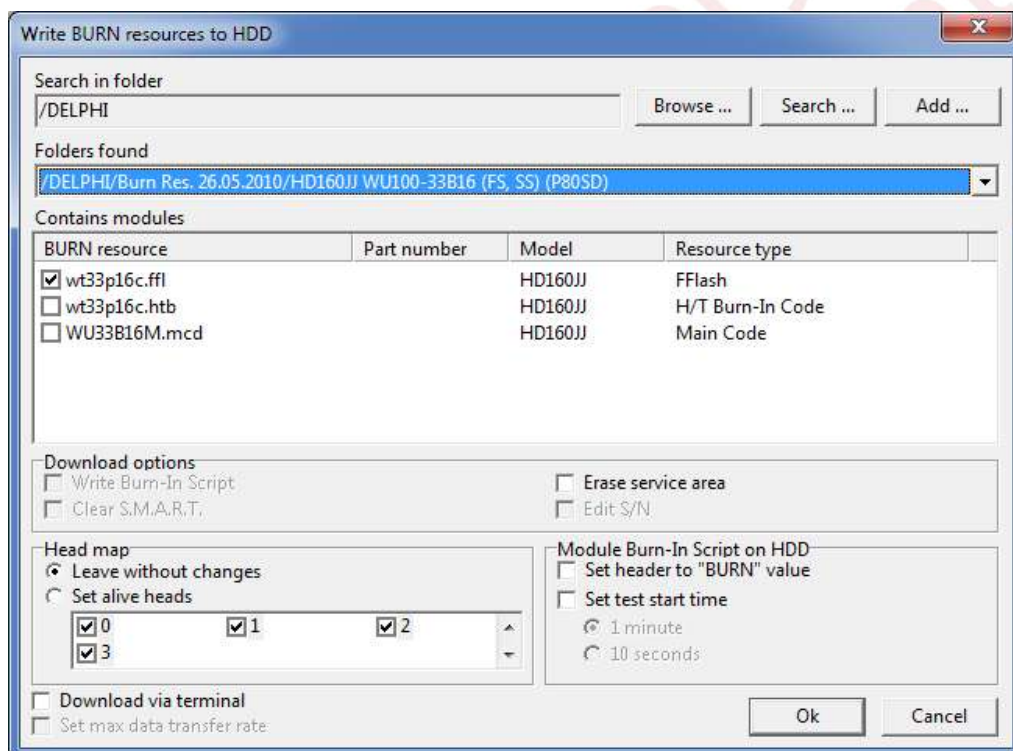

Fig.8.17.
- ◆ Select the «Write BURN resources to HDD» command (see section 5.3.4.2) and specify the burn resource compatible with the drive model (Fig. 8.17).
- ◆ Deselect all additional loading options, leave the heads map unchanged. If you are recording the resource through terminal, enable the option to «Download via terminal» (Fig. 8.17).